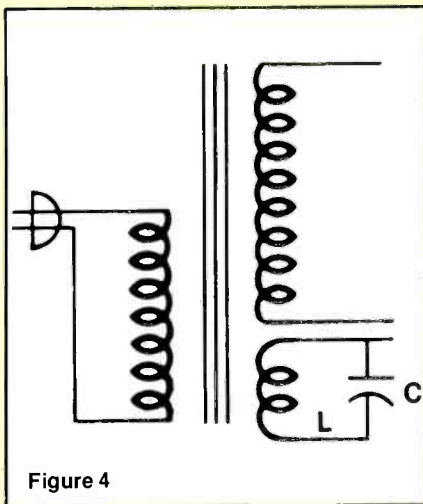

Figure 4
Ferroresonant transformers also work on the principle of saturation. An example of this device is shown in Figure 4. In other versions, the resonating capacitor is connected across parts of the secondary winding. In this case, a separate winding (L) and capacitor (C) are used to oscillate at the line frequency.
Figure 4. In a ferroresonant transformer, the additional flux provided by the resonance of the L/C circuit makes it less likely for the transformer to go out of regulation when the input voltage is low.